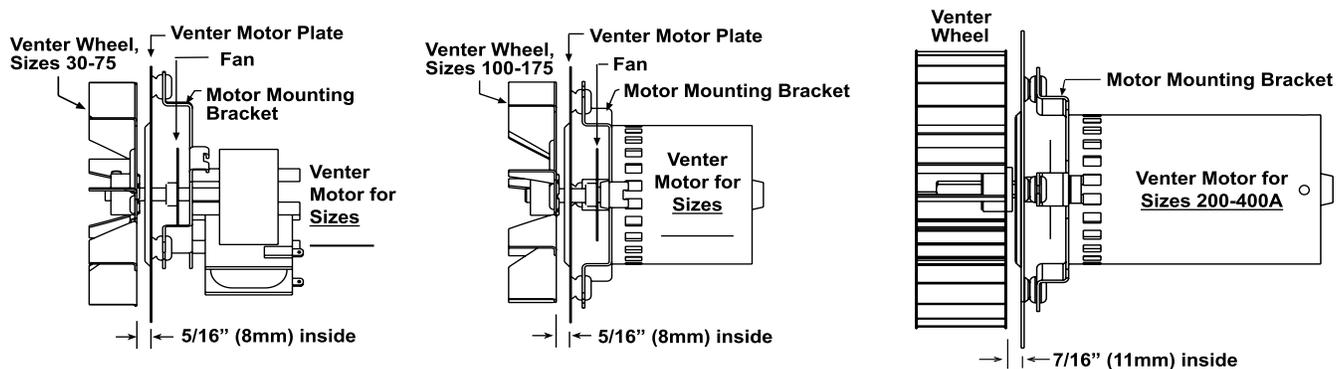

Figure 24. Venter Wheel Position on Shaft
6. Reassemble with replacement venter motor and wheel. Ensure that venter wheel is properly positioned on shaft (see Figure 24).